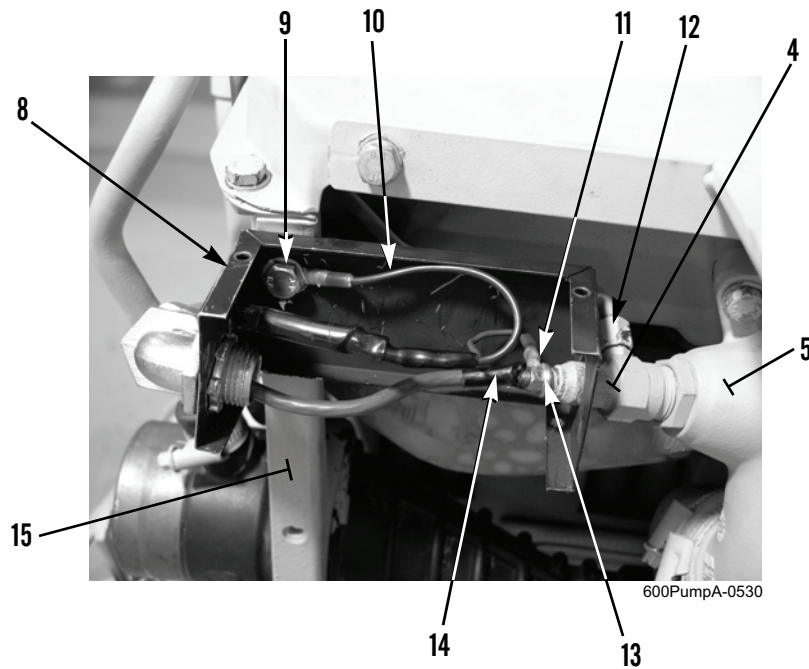

Figure 4. Flame Glow Plug.
2. Remove nut (Figure 4, Item 13) and two wires (Figure 4, Items 11 and 14) from flame glow plug (Figure 4, Item 4).
3. Remove bolt (Figure 4, Item 9), ground wire (Figure 4, Item 10), and pull EMI enclosure (Figure 4, Item 8) away from front air duct wall (Figure 4, Item 15).
4. Disconnect fuel line (Figure 4, Item 12) from flame glow plug (Figure 4, Item 4).
5. Remove flame glow plug (Figure 4, Item 4) from manifold pipe (Figure 4, Item 5).
1. Install flame glow plug (Figure 4, Item 4) in manifold pipe (Figure 4, Item 5).
2. Connect fuel line (Figure 4, Item 12) to flame glow plug (Figure 4, Item 4).
3. Position EMI enclosure (Figure 4, Item 8) at front air duct wall (Figure 4, Item 15) and flame glow plug (Figure 4, Item 4) and install ground wire (Figure 4, Item 10) and bolt (Figure 4, Item 9).
4. Install two wires (Figure 4, Items 11 and 14) and nut (Figure 4, Item 13) on flame glow plug (Figure 4, Item 4).